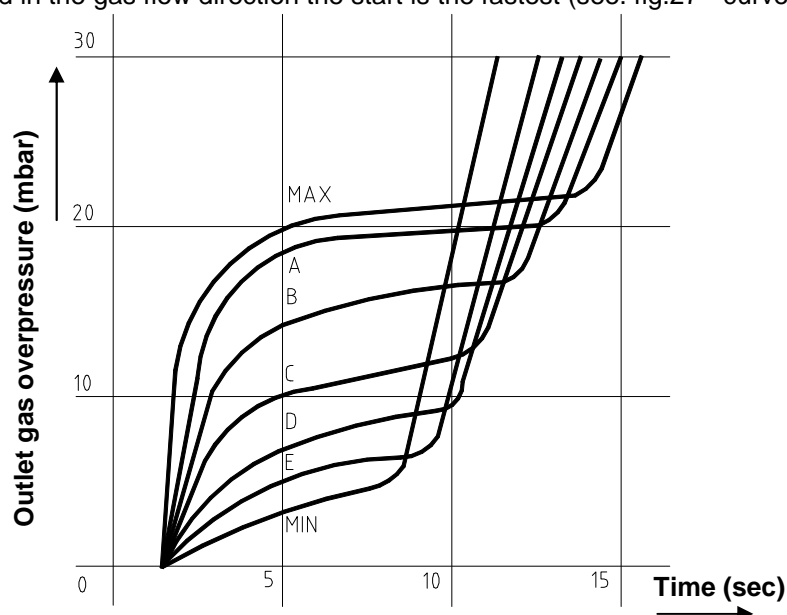

Fig.no. 27 Main valve opening characteristics
Honeywell VK 4100Q 2003 valve is by its manufacturer set to the slowest start (see fig. no. 27 – MIN curve). In case of need to change the opening characteristics the adjustment can be done to the next points and fig. no. 27.
3. If the arrow is turned against the gas flow direction the start is the slowest (see. fig. no. 27 - curve MIN)